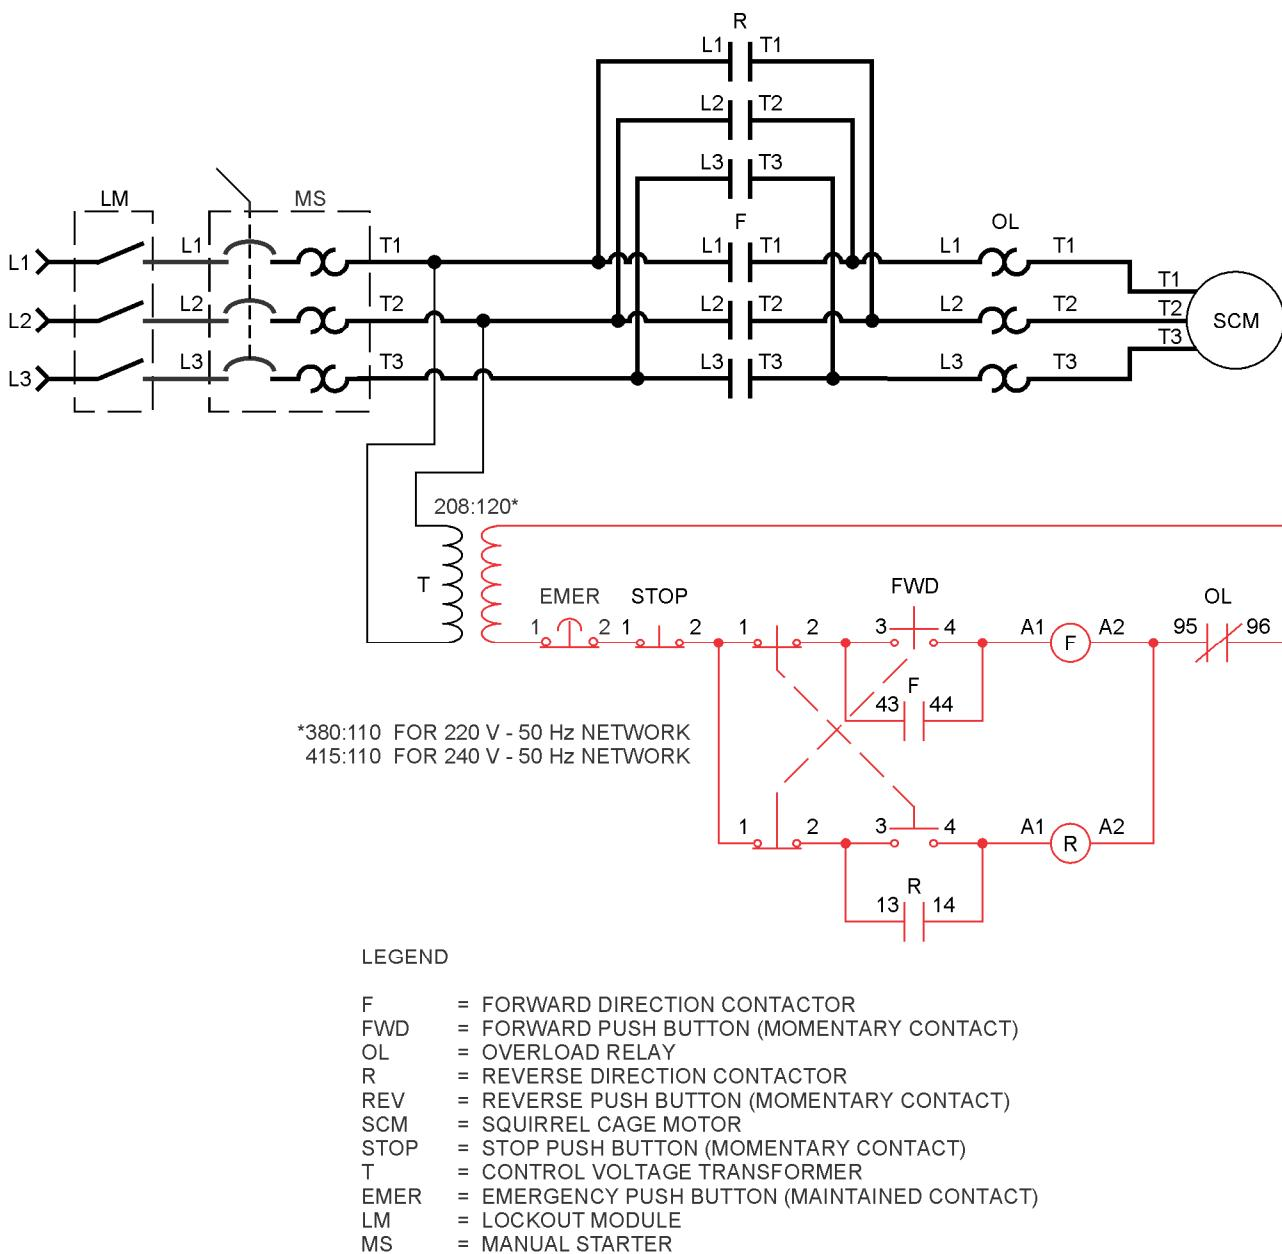

Figure 3-9. Push button interlocking circuit.
When phase reversal is executed in magnetic circuits, one contactor is used for each direction. But a short-circuit can occur if the two contactors are energized at the same time. Look at the Figure 3-9 power circuit, for example. If all contacts of the F and R contactors close, lines 1 and 2 will be short-circuited. That is the reason why forward and reverse contactors are usually electrically and/or mechanically interlocked together.
When the FWD push button in Figure 3-9 is pressed, the coil (F) is energized and the related holding contact closes. If the REV push button is pressed while the motor is running in the forward direction, the forward control circuit de-energizes. At the same time, the reverse contactor (R) is energized and held closed, making the motor run in the reverse direction. Note that it is not necessary to press the STOP push button to reverse direction. This fact facilitates plugging.
Connect the circuit shown in Figure 3-9.
**24.** Connect the circuit shown in Figure 3-9, this time using the two contactors from the Dual Contactors module.